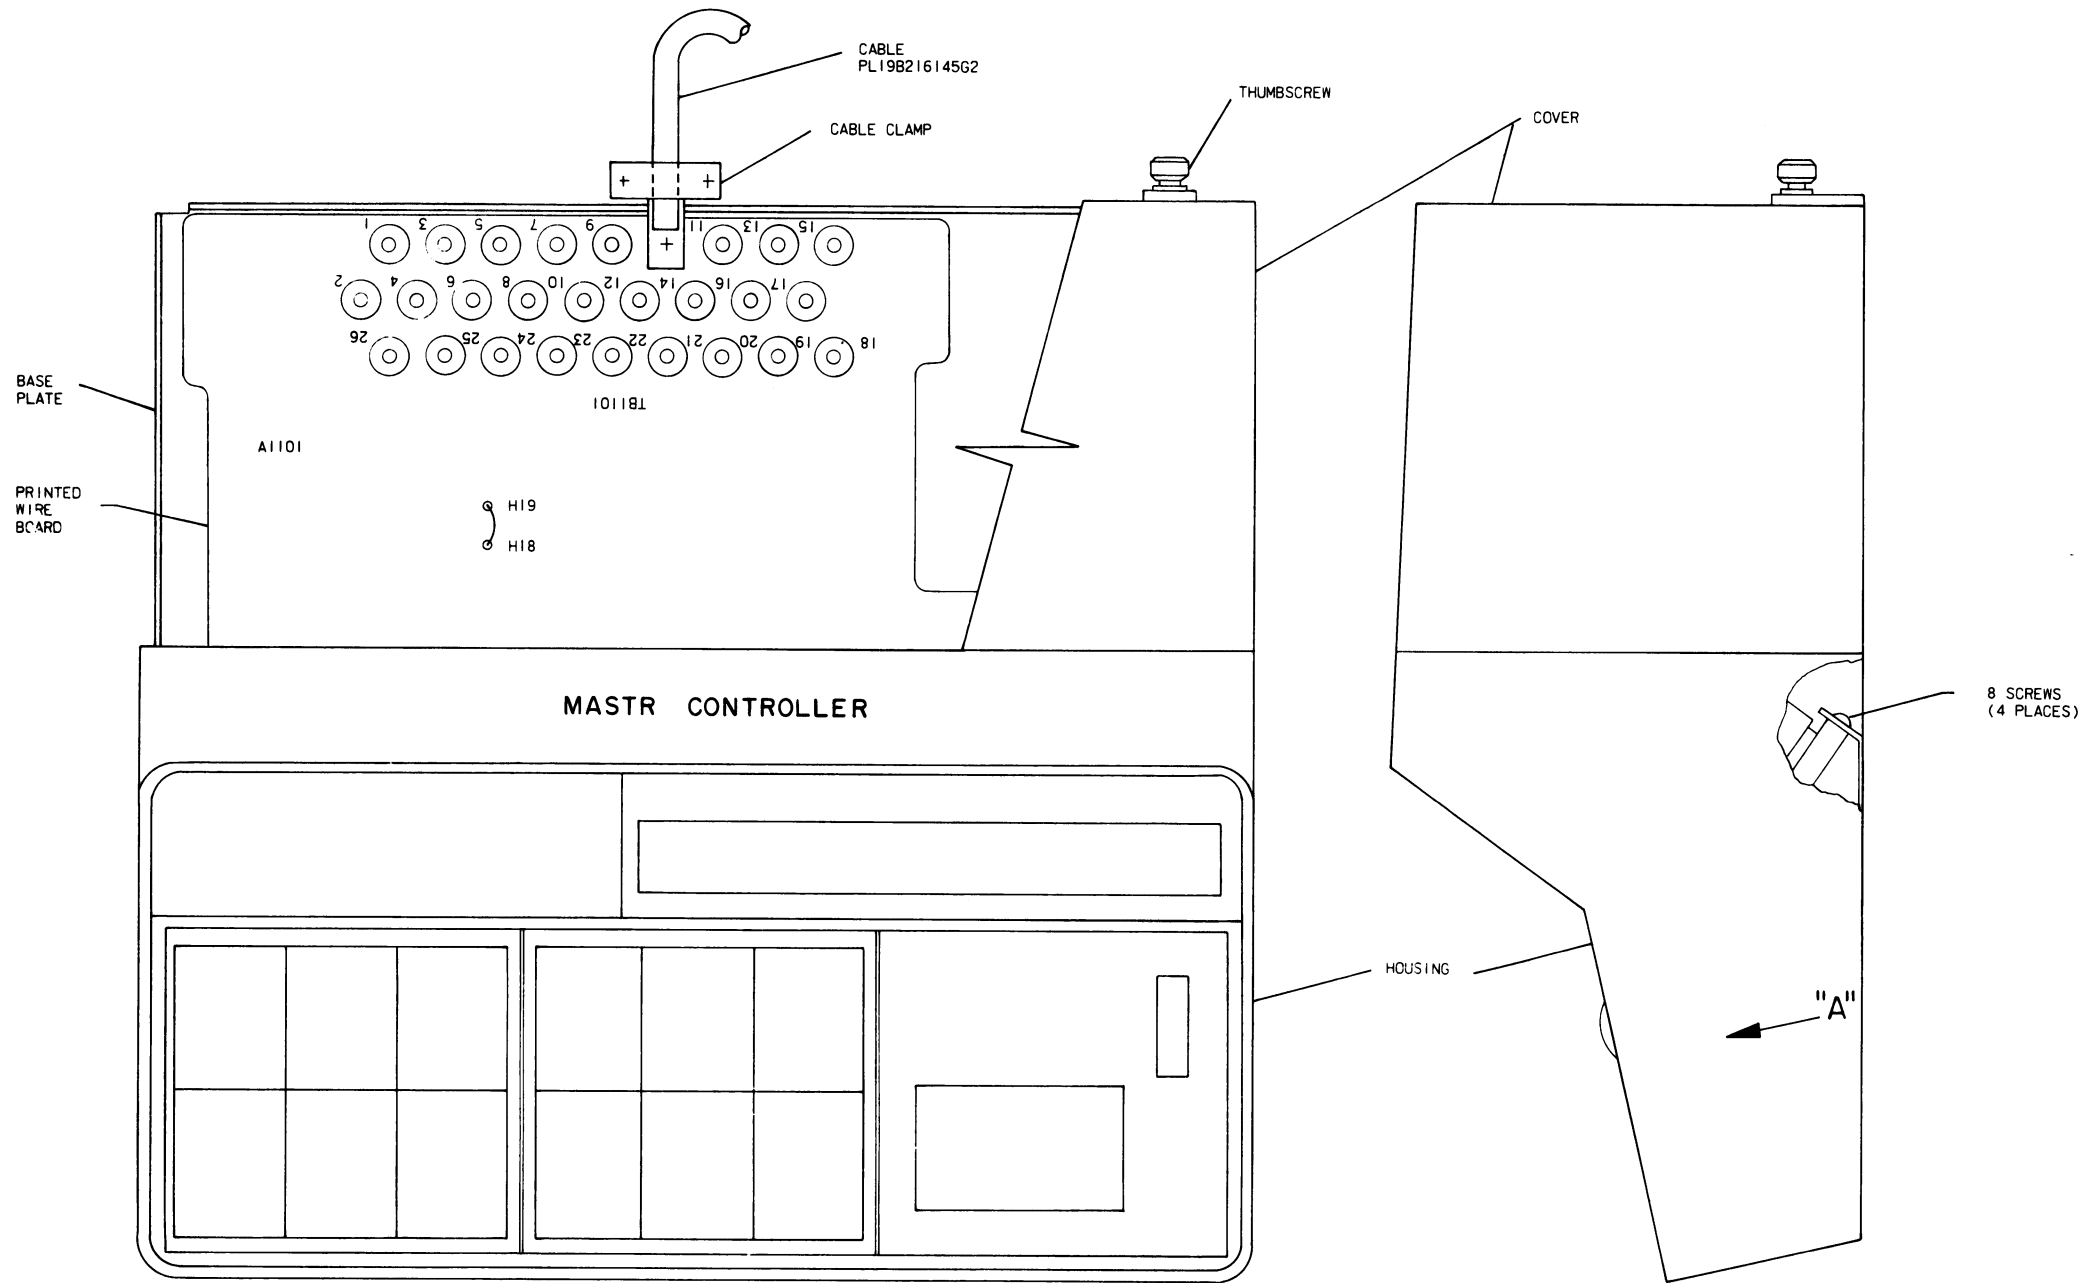

FIG. 1
2. REMOVE FOUR (4) #8 SCREWS AND REMOVE HOUSING.
6. CONNECT CABLE (19B216145G2) TO MASTR CONTROLLER UNIT PER CONNECTION CHART. SEE FIGURE 1.